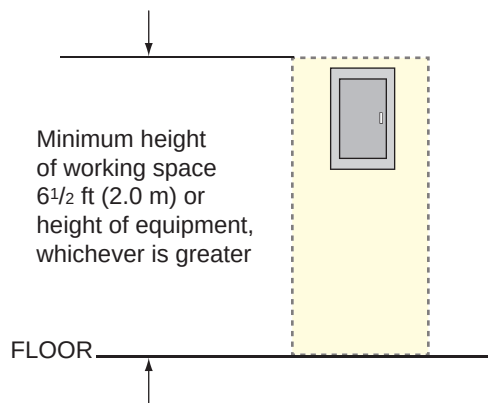

FIGURE 12-19 Working space height, NEC 110.26(A)(3). (Delmar/Cengage Learning)
▶ Working space height shall not be less than 6.5 ft (2.0 m). For equipment more than 6.5 ft (2.0 m) high, the working space height shall be at least as high as the equipment. ◀ This working space height will enable most people to stand in front of the equipment. See Figure 12-19 and NEC 110.26(E).